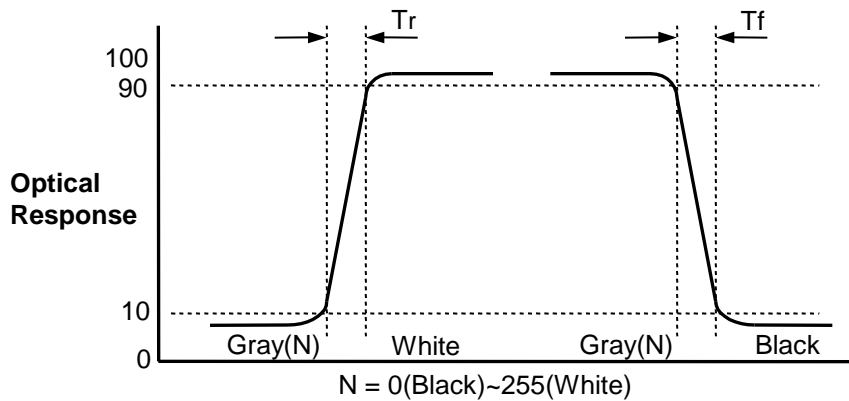

FIG. 4 Response Time
- Response time is the time required for the display to transit from any gray to white (Rise Time, Tr_R) and from any gray to black (Decay time, Tr_D). For additional information see the FIG. 4.